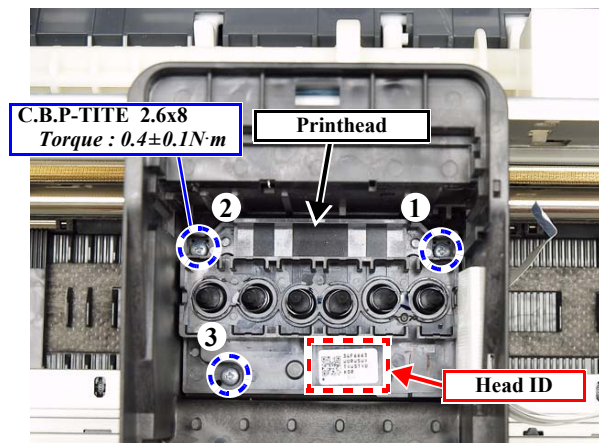

Figure 4-34. Removing the Printhead
13. Lift the Printhead, and disconnect the FFCs (x2). (Fig. 4-34)
- When installing the Printhead, tighten the screws in the specified order. (Fig. 4-34)